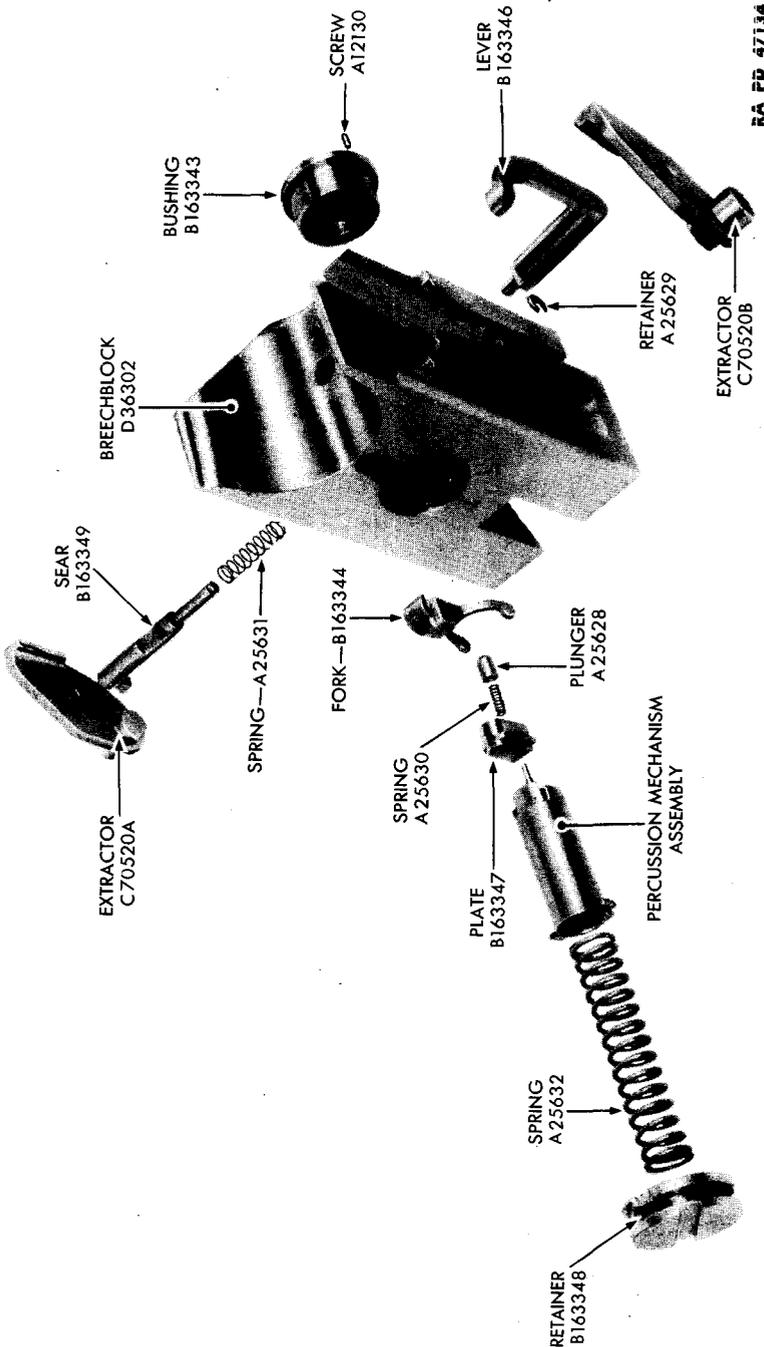

Figure 22 — Breechblock — Exploded View
b. Remove Percussion Mechanism. Remove plunger, spring, and plate from slot in breechblock (figs. 22 and 26). Press sear in-